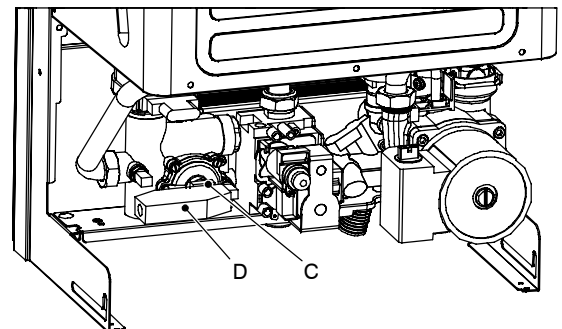

Fig. 61
- 2 Remove the fork C (Fig. 61).
- 2 Remove the fork C that holds the micro-switch housing D (Fig. 61).